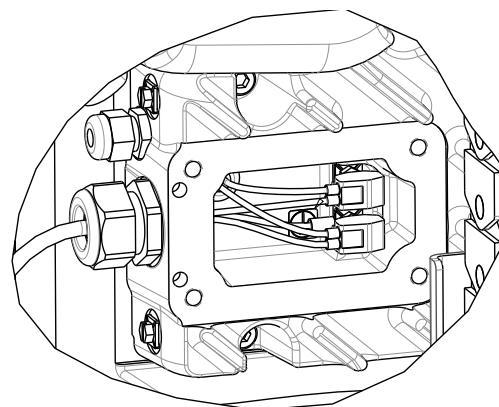

FIG. 48: Wires in Driver Housing
- a. If using an ambient Single Ram Supply System, turn the red Disconnect Switch (AZ) OFF.
- b. If using a heated Single Ram Supply System, turn the red Disconnect Switch (AZ) OFF.
- c. If using an ambient Tandem Ram Supply System, turn the red Disconnect Switch (AZ) OFF only on the Ram Supply Unit the Driver is being removed from.
- d. If using a heated Tandem Ram Supply System, turn the red Disconnect Switch (AZ) OFF only on the Ram Supply Unit the Driver is being removed from.
4. Disconnect power from the Driver (AB):
- a. Remove the Driver housing cover (HC).
- b. Disconnect the wires inside the Driver housing. See FIG. 48.